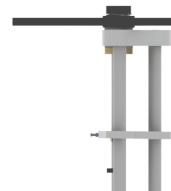

Figure 64
**NOTE:** If you have a one-piece guide plate (see Figure 64), tighten the guide plate screw to the insertion tool.